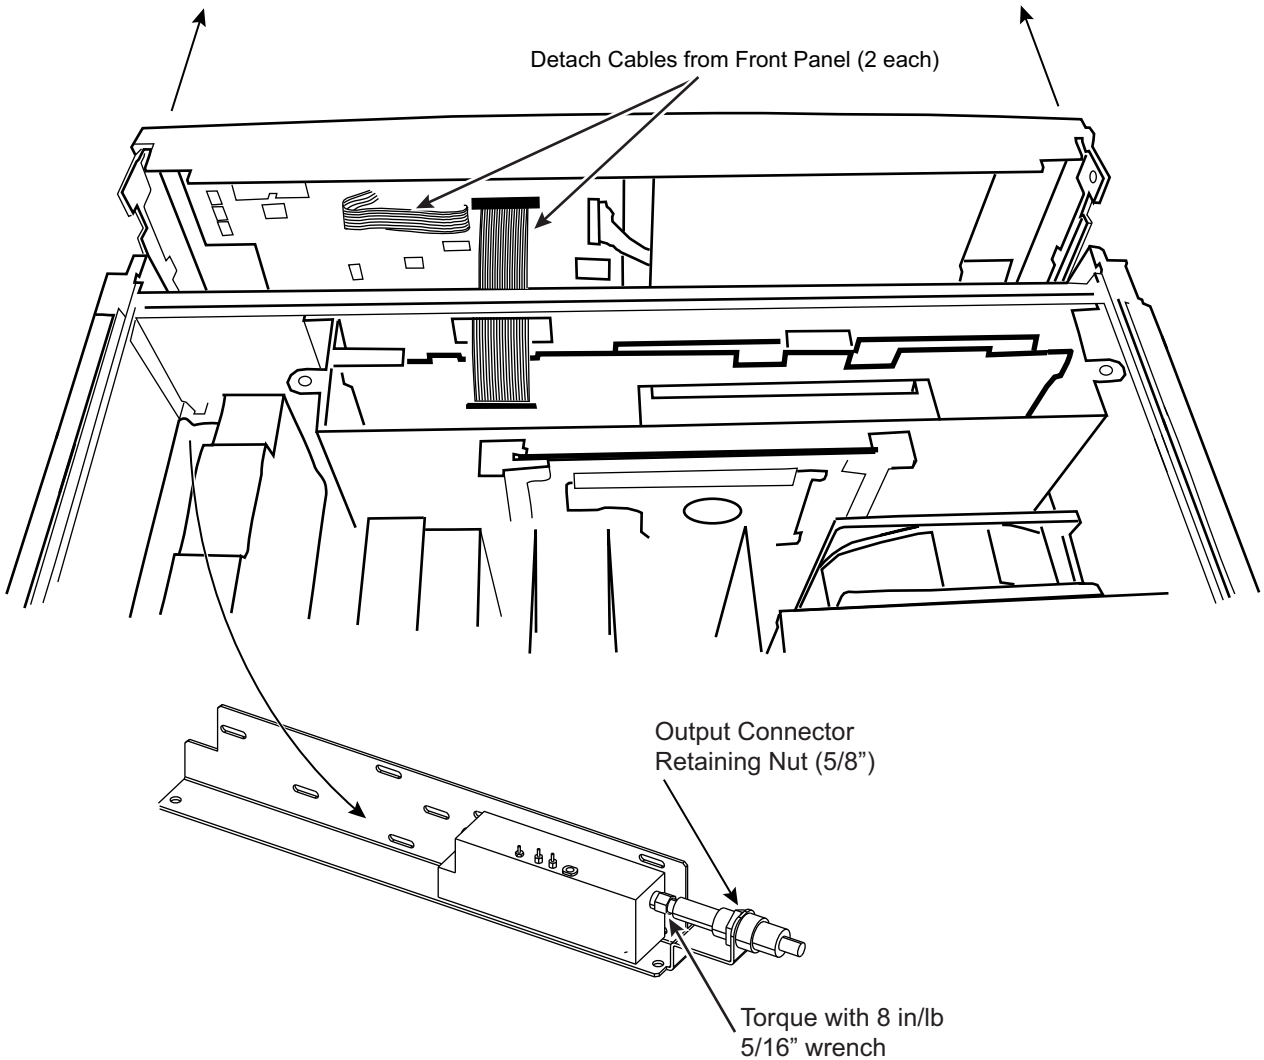

Figure 6-3. Front Panel Removal
This section provides instructions for removing and replacing the front panel assembly of the MG3702xA. The front panel assembly contains the A1 front panel PCB. Refer to Figure 6-3 during this procedure.
2. Carefully pull the front panel away from the chassis to gain access to the ribbon cables that connect the front panel PCB assembly to the microprocessor PCB assembly. See Figure 6-3.